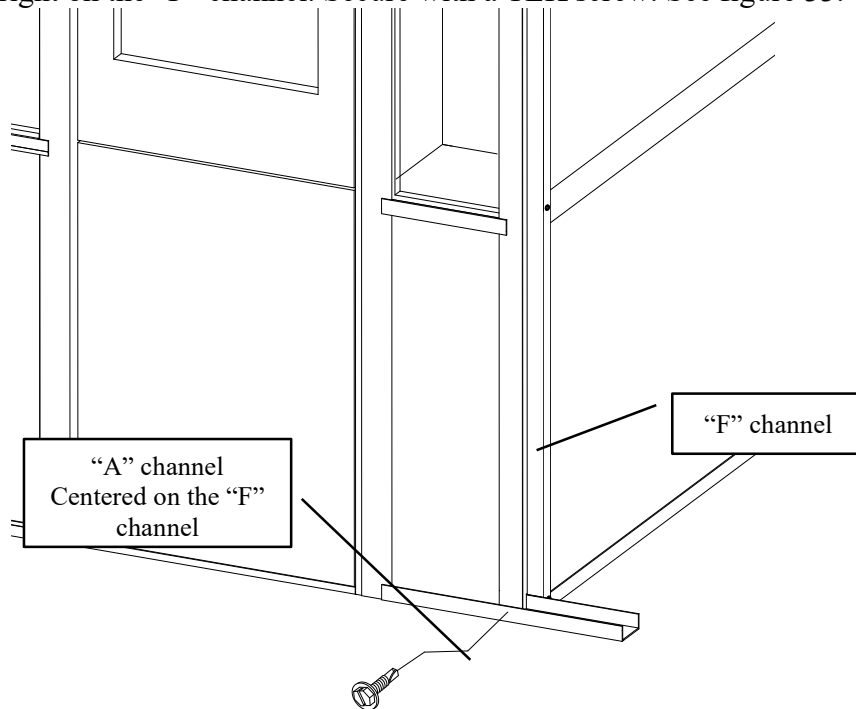

Figure 33
18. Measure to ensure that the division wall is in its correct position and that the “A” channel is centered left to right on the “F” channel. Secure with a TEK screw. See figure 33.